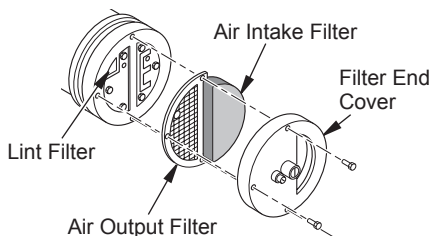

Figure 20 - Air Output, Air Intake, and Lint Filters
1. Remove filter end cover screws using 5/16" nut-driver (see Figure 20).